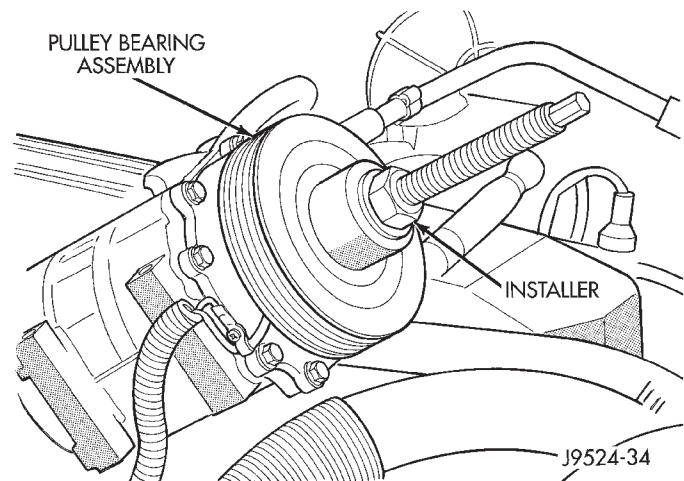

Fig. 26 Clutch Pulley Install
- (1) Install the clutch field coil and snap ring.
- (2) Install the clutch coil lead wire harness retaining clip on the compressor front housing and tighten the retaining screw.
- (3) Align the rotor assembly squarely on the front compressor housing hub.
- (4) Install the pulley bearing assembly with the installer (Special Tool C-6871) (Fig. 26). Thread the installer on the shaft, then turn the nut until the pulley assembly is seated.